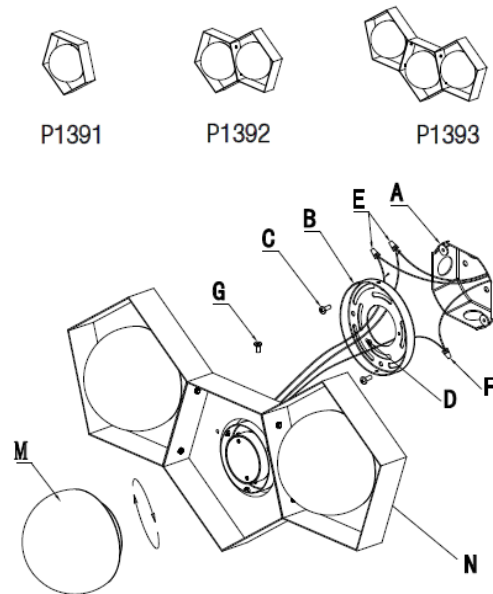

Fig. 2
CONNECTING THE WIRES (Fig. 2)
4. At this point, connect the electrical wire as shown in figure 2, making sure that all wire connectors are secured. If your outlet has a ground wire (green or bare copper), connect the fixtures ground wire to it. Otherwise, connect the fixture ground wire directly to the mounting plate (B) using the green screw provided. After wires are connected, tuck them carefully inside the junction box (A).